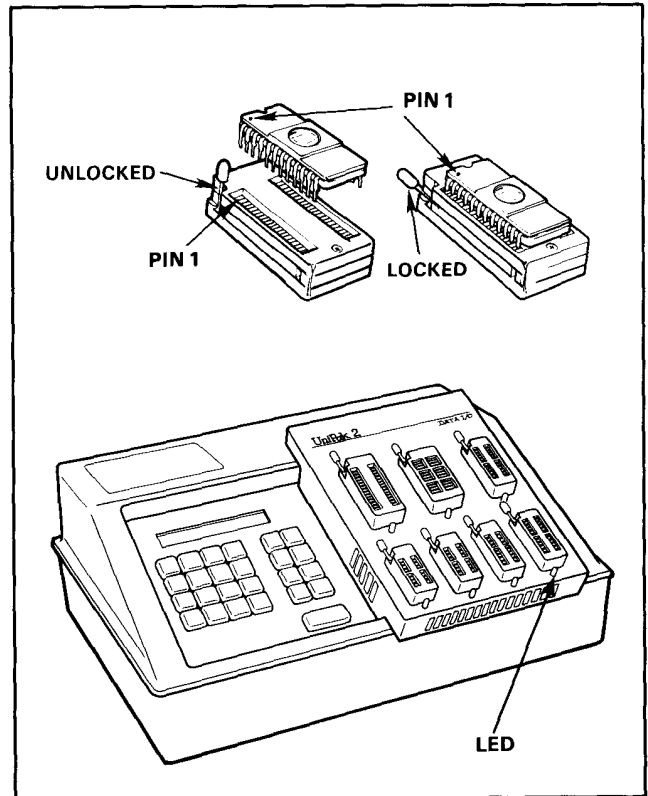

Figure 3-3. UniPak 2™ Sockets and Device Installation
2. Lift up the lever on the upper left side of the socket above the lighted LED; see figure 3-3. (The lever will stay locked into the upright position.)
3. Gently insert the device in the socket above the lighted LED. Make sure pin 1 of the device is aligned with pin 1 of the socket, as shown in figure 3-3.
2. Lift up the lever on the left side of the socket; see figure 3-3. (The lever will lock into the upright position.)